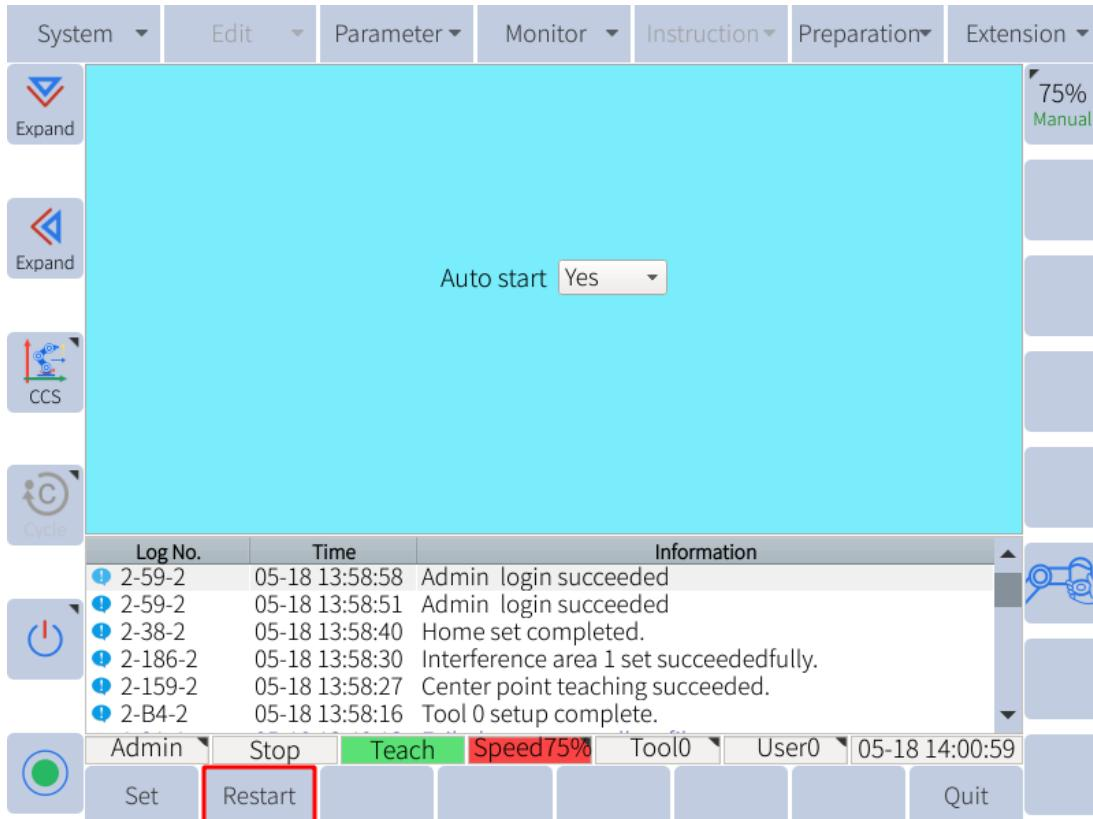

Figure 11-2 : VNC setting page
3. Click “Restart” to start VNC, as shown in **Figure 11-2**.